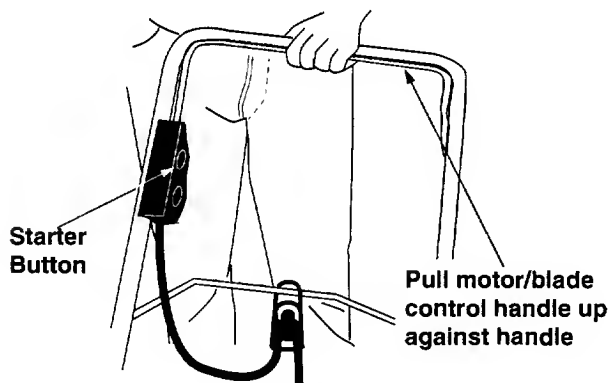

Figure 10
- Lift motor/blade control handle (bail) up against handle. Release starter button. See figure 10.